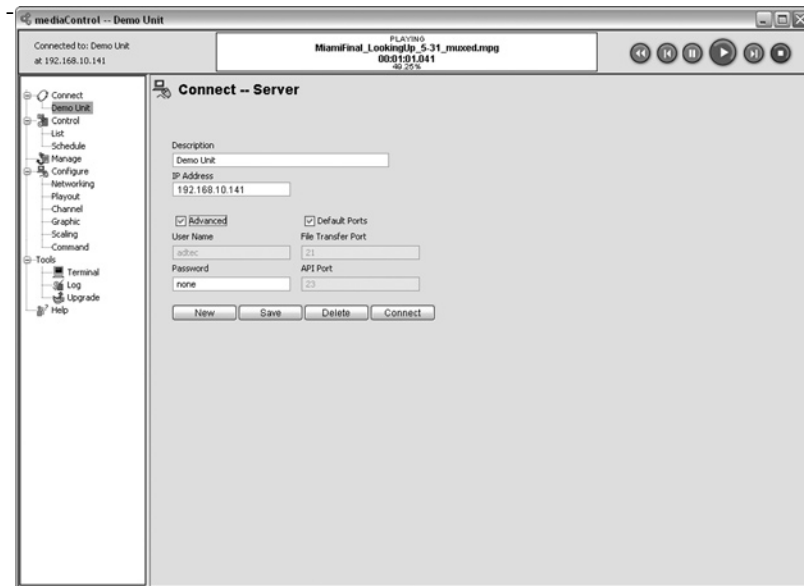

Figure 3.2
- Click on the Connect header in the navigation panel of mediaControl to create a new connection. (Fig 3.2)